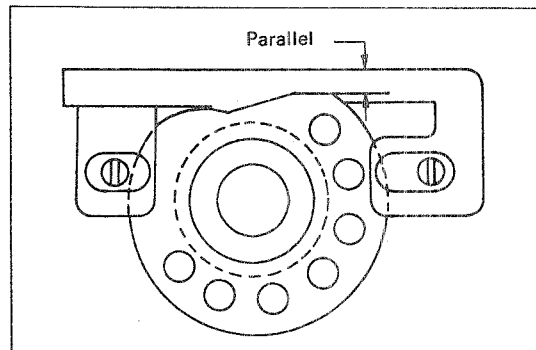

Fig. 25
- b) Attach the thread cam so that its flat surface is in parallel with the top surface of the thread guide when the needle has reached its highest position. (Fig. 25)